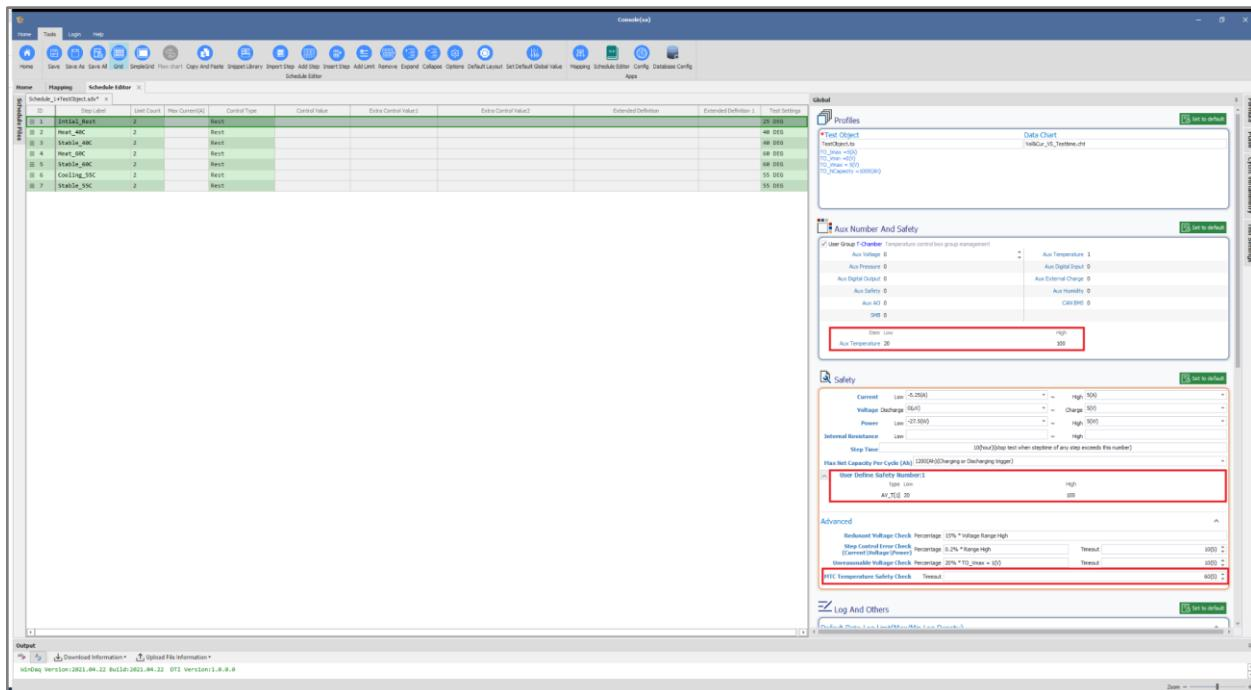

Figure 19-56 Security Features of MZTC on the Global Tab of Schedule
This advanced feature is highlighted in the red box in Figure 19-56 below.
- 2) Select the maximum and minimum values in degrees Celsius. Figure 19-56 below shows a schedule that will allow a single chamber to operate in a temperature range of 20°C to 40°C.